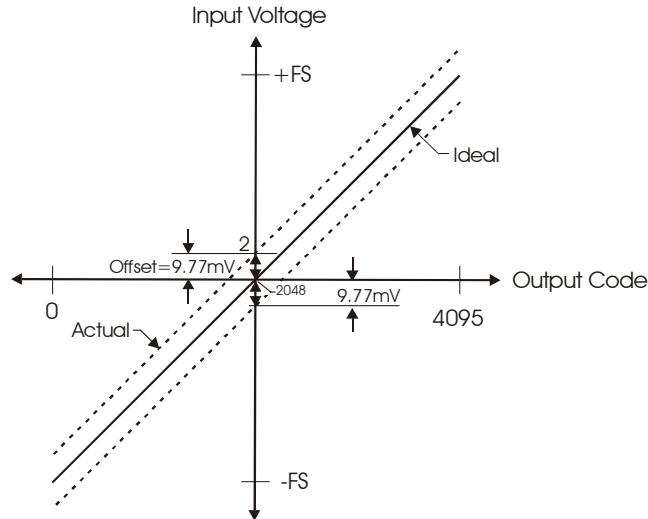

Figure 3-11. ADC transfer function with offset error
The PMD-1208FS offset error is measured at mid-scale. Ideally, a zero volt input should produce an output code of 2048. Any deviation from this is an offset error. Figure 3-11 shows the PMD-1208FS transfer function with an offset error. The typical offset error specification on the  $\pm 10$  V range is  $\pm 9.77$  mV. Offset error affects all codes equally by shifting the entire transfer function up or down along the input voltage axis.
**The accuracy plots in Figure 3-11 are drawn for clarity and are not drawn to scale.**